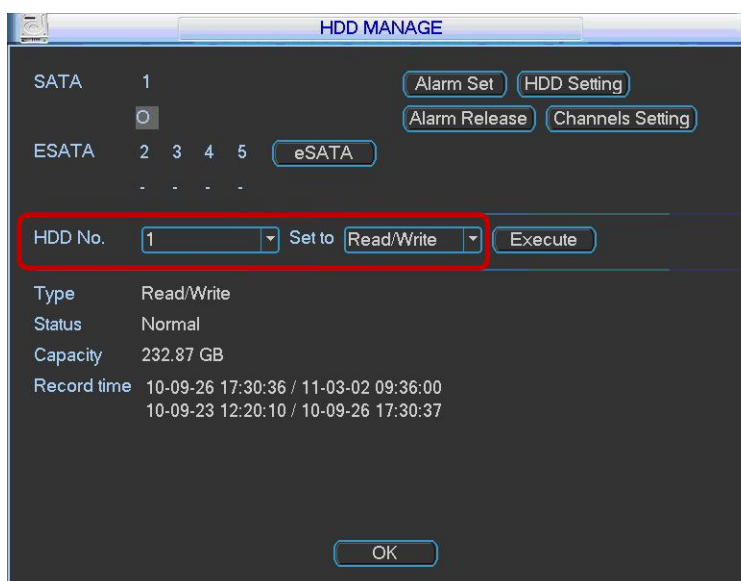

Figure 2-14
2. In the Advanced menu, click the HDD Manage icon to open the HDD Manage screen. See Figure 2-14.
- Set the redundant disc(s) as read-only or read-write (*Main Menu > Advanced > HDD Manage*). See Figure 2-14. You must reboot the DVR to activate the new setup.